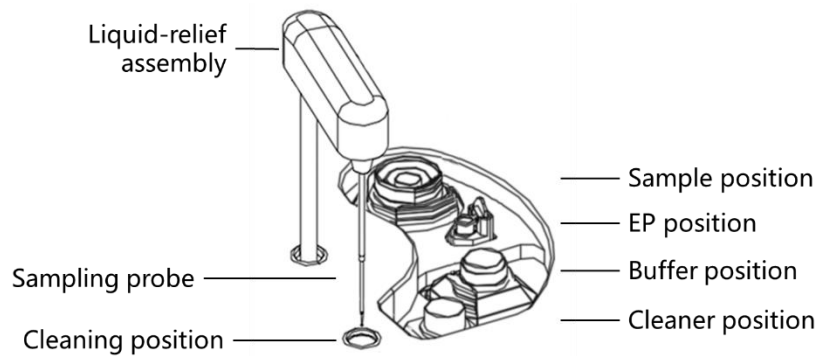

Figure 12 Reagent bottles inside the system
- 3) Tap 'Start' , and the system will load the EID and identify its type automatically, then the sample setting page will show. Enter the 'Sample ID' and 'Sample Volume', select the 'Sample Type', 'Program' et al. If 'Auto Recovery: On' * is selected, please mount an Eppendorf tube (1.5 mL) in the 'EXOSOME' position (Figure 12). Tap 'OK'  and the system starts the isolation automatically.